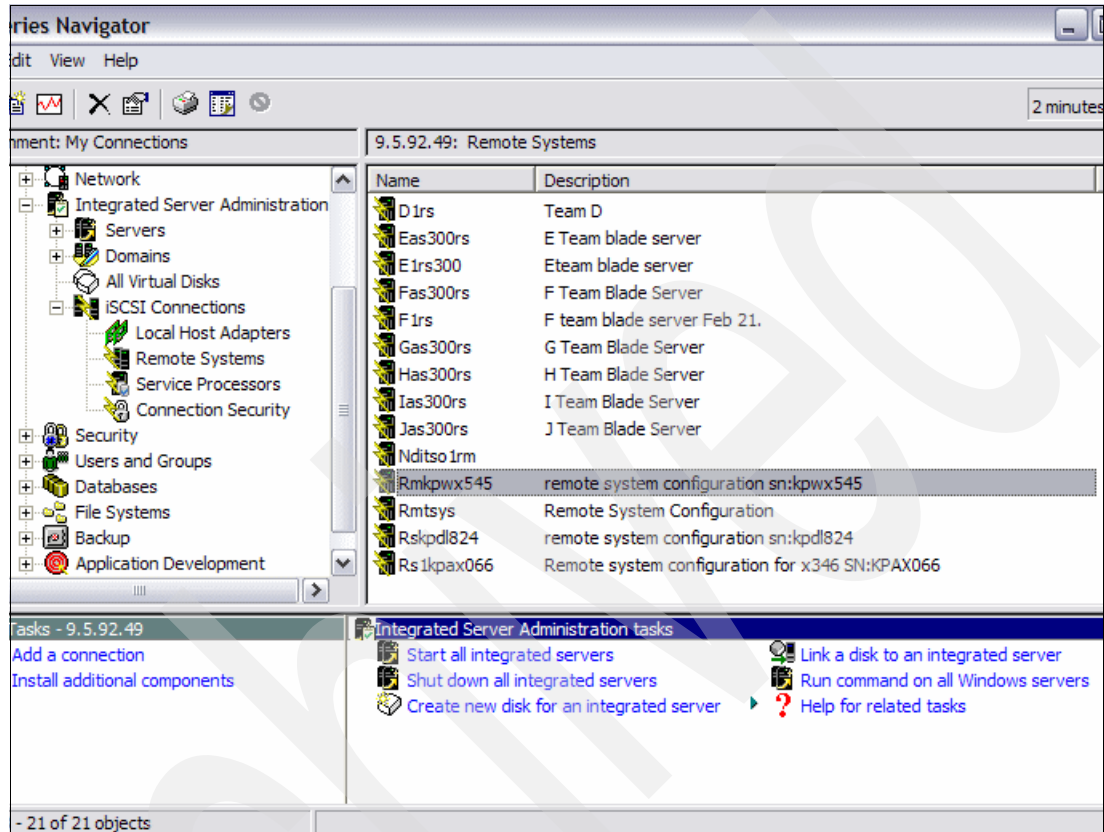

Figure 4-24 Selecting the remote system to verify
- b. Select the remote system object you wish to verify on Figure 4-24.